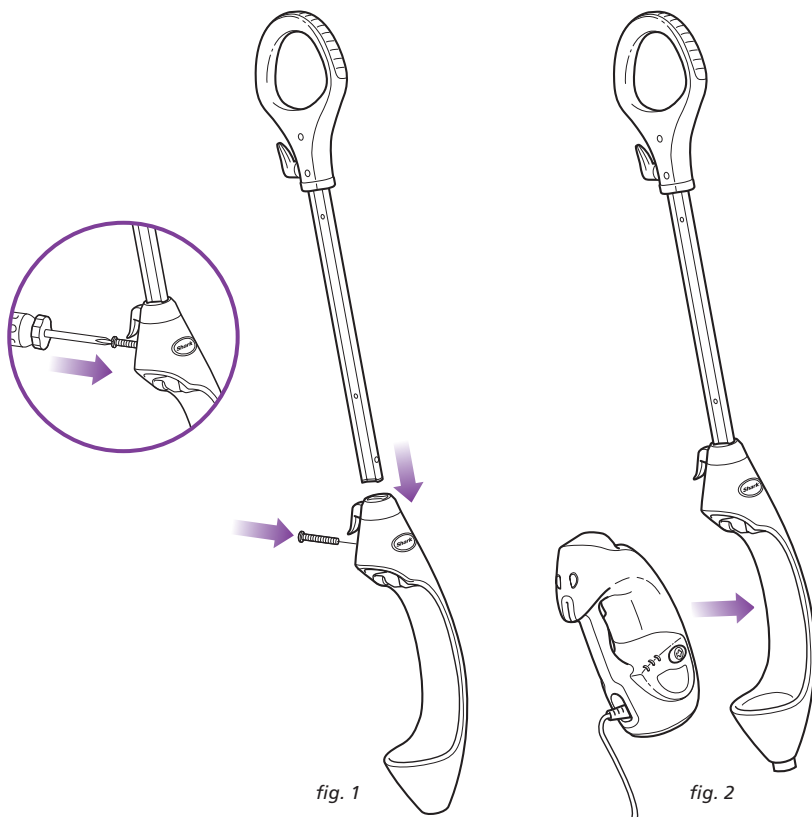

fig. 1
Loosen and dislodge compact dirt found in corners or tight places. **(Fig. 1)**
- 1 Insert the Mop Handle end labeled "Front" into the Steam Mop Housing. Make sure it is inserted past the line printed on the pole. Secure the assembled handle and pole by using the large screw and a Phillips or a flat head screw driver (screwdriver not included). (**fig. 1**)